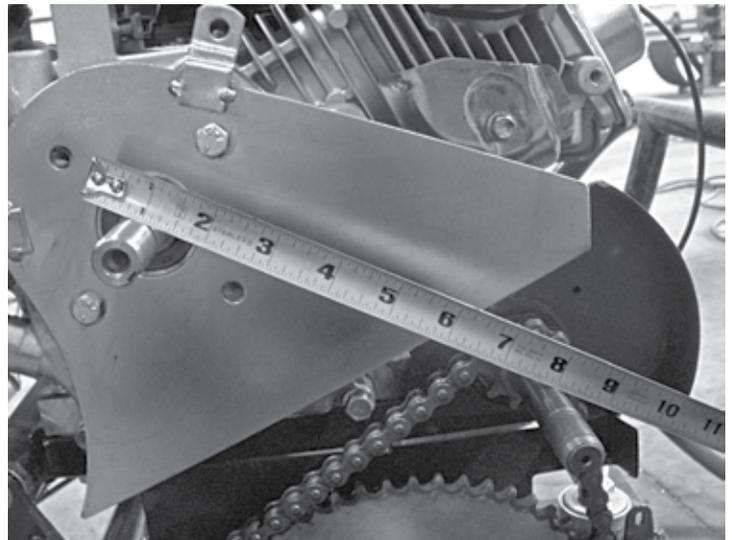

fig. 6 (NOTE: measurement shown above is not correct / photo is for reference ONLY)
2. Once the engine is installed and prior to installing the driver and driven pulley, confirm the distance from the center of the engine output shaft to the center of the jackshaft. This distance should be 171 mm/6.73" (see figure 6).
2. When installing the engine, leave its mounting bolts loose. Position the engine so that the distance from the center of the engine output shaft to the center of the jackshaft is 171 mm / 6.73" as shown in figure 6. Tighten the engine mounting bolts and continue with the rest of the installation.